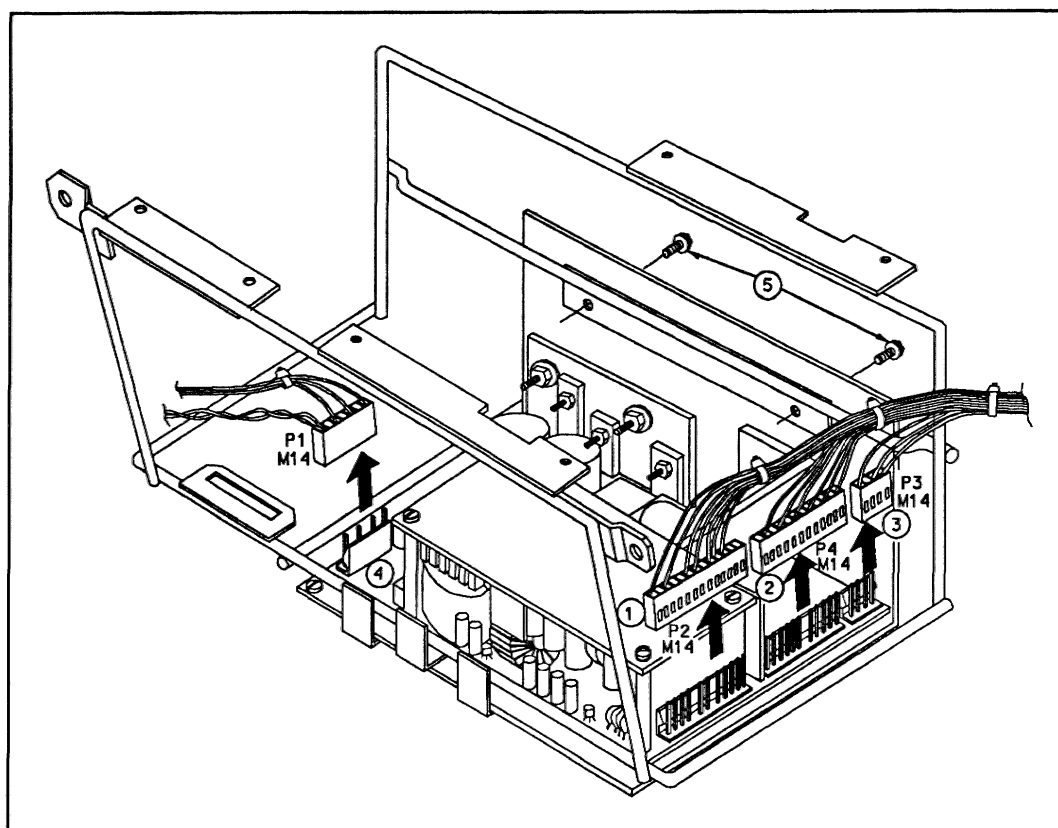

FIGURE 15-1. Low Voltage Power Supply Removal
- Disconnect the M14-P1, M14-P2, M14-P3 and M14-P4 connections from the module. See Figure 15-1.
- Remove the two securing screws (item 5).